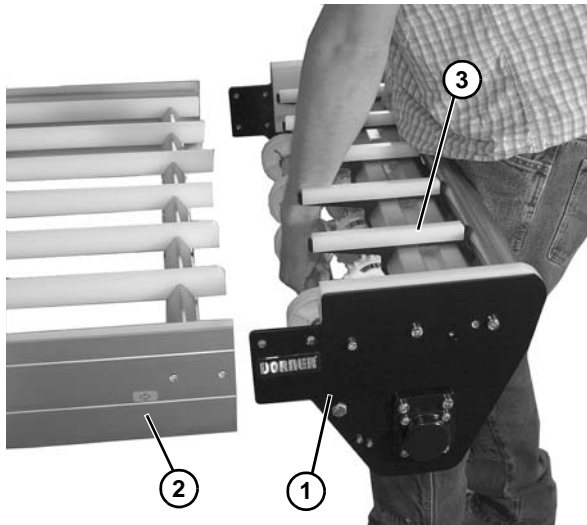

Figure 52
3. Remove the drive tail assembly (Figure 52, item 1) from the frame (Figure 52, item 2).
4. Remove wear strips, (Figure 52, item 3), as necessary.